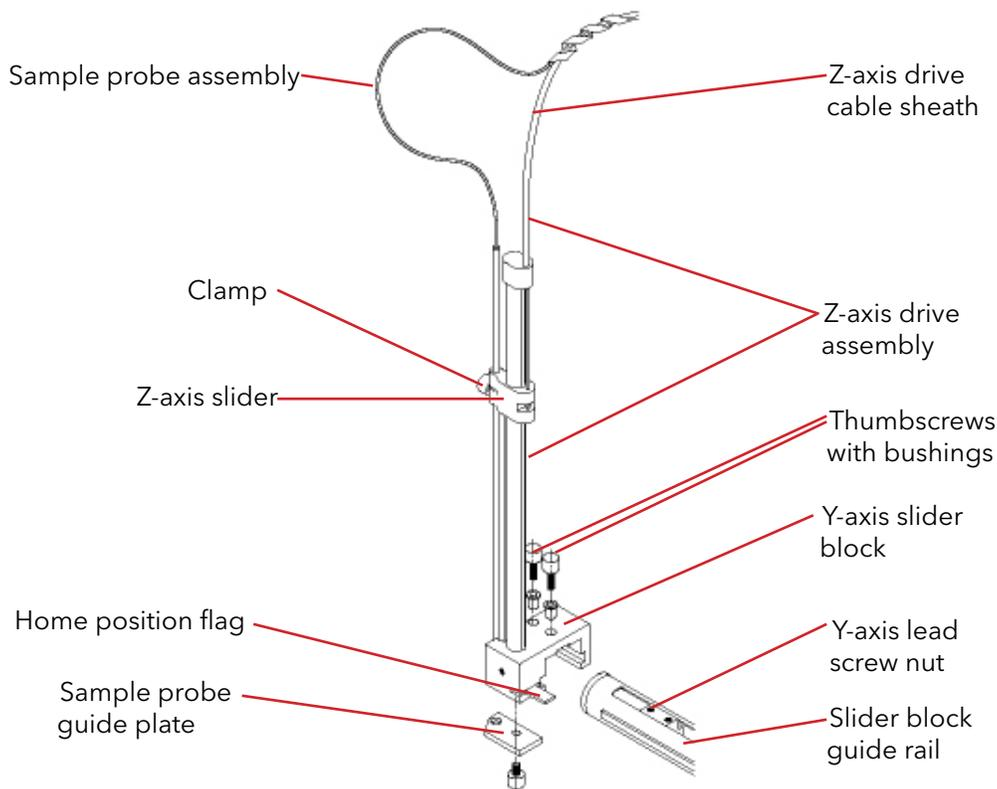

Figure 4.2. Z-Drive Assembly with Z-Axis Slider
3. Slide the block along the arm tube until the holes in the block align with the matching holes in the Y-axis lead screw nut (Figure 4.2).